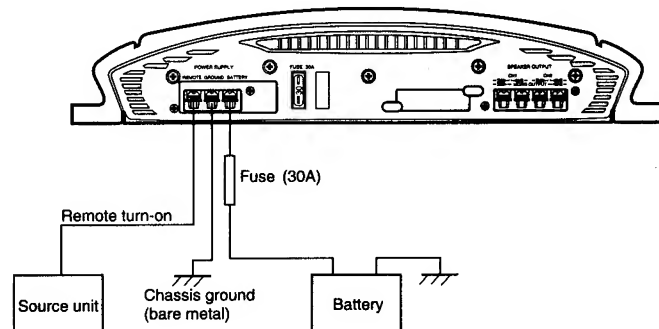

Figure 9 Electrical Connections
- Refer to Figure 9 when making electrical connections. Connect the amplifier's positive (+) power lead via a fuse directly to the positive (+) terminal on the car battery. Do not connect this wire to the car's fuse panel. Use yellow-insulated 10-gauge (or larger) wire for the amplifier's positive (+) power lead and the same gauge black insulated wire for the ground.